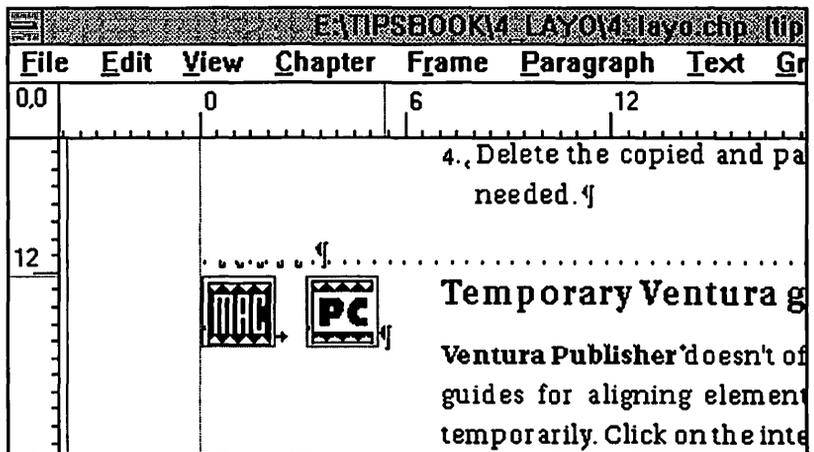

FIGURE 10-5 A *tab* (the arrow symbol) placed between the Mac and PC frame anchors made it easy to adjust the spacing between the icons.
- The temporary label <BOTH> required that both icons be placed side-by-side. Thus the third macro changed <BOTH> to the code @ANCHORS = <\$\$MAC[-]>tab<\$\$PC[-]>. (Note that an actual tab character, not the word *tab*, is inserted between the two anchor codes.) We gave the dual-icon paragraph a different style name (@ANCHORS instead of @ANCHOR) so that we could freely modify the line's indent and the icons' spacing independently of the single-icon lines (Figure 10-5). Adjusting the spacing between the Mac and PC icons was easily accomplished by changing the tab stop via the TAB SETTINGS command under the Paragraph menu.